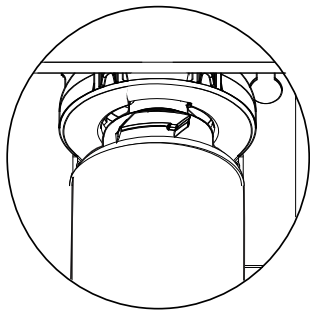
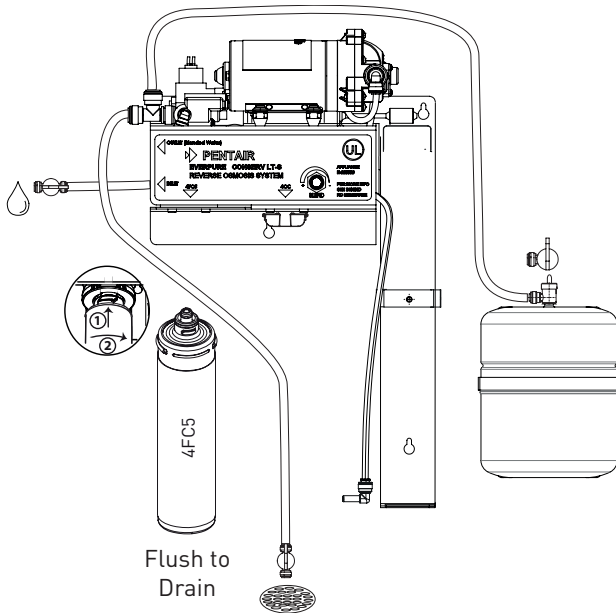

Figure 5
Figure 6
1. Line up the tabs with the slots in the opening on the left side of the head assembly. See Figure 5 and Figure 6.
- Line up the tabs on the 4CC Cartridge with the slots in the opening on the front side of the head assembly. See Figure 6 and insert the cartridge to full depth.